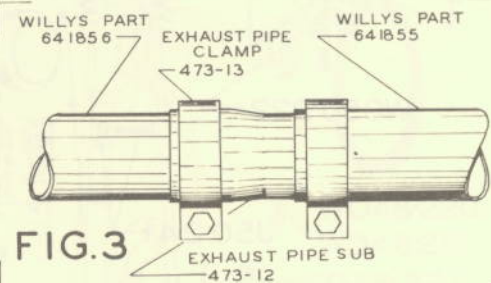

FIG. 3
1. **EXHAUST PIPE MUST BE MOVED** from above transmission cross member to below transmission cross member. Remove center section of exhaust pipe. Heat front exhaust pipe section close to manifold and bend towards Jeep frame approximately $\frac{3}{4}$ ". Heat this front section again in the curve and bend down $1\frac{3}{4}$ " or until the end is below transmission cross member (Fig. 1). Heat and straighten out first kink in center section of exhaust pipe. Heat and bend down at second kink in center section of exhaust pipe until this section lines up with front exhaust pipe. (Fig. 2) Connect front and center sections of exhaust pipe with exhaust pipe sub and extra clamp which is furnished with winch installation (Fig. 3).